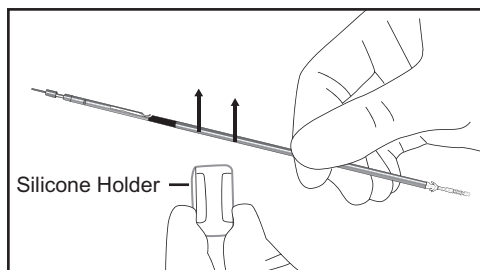

Figure 12: Separating the Lead in Loader from the Silicone Holder
5. Remove the lead in loader from the tray and carefully separate the silicone holder from the loader. See Figure 12.